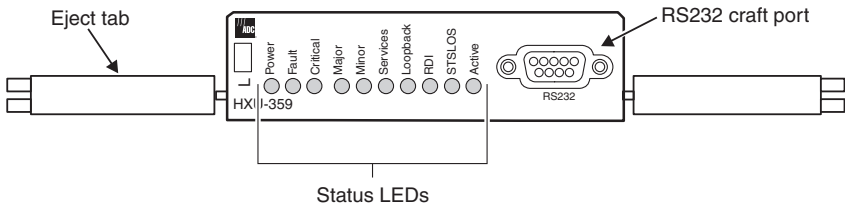

Figure 1. HXU-359 Front Panel
Figure 1 shows the front panel of the HXU-359. The HXU-359 continuously monitors the services, the Network Element (NE), the network and the signals it transports. The LEDs on the HXU front panel indicate current states. Any alarm triggers an audible alarm relay.